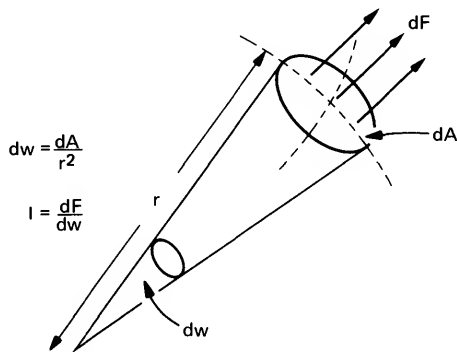

Figure 3. Solid angles and luminous intensity.
Since it is generally not practical to collect all the flux from a light source, and direct it in some desired direction, it is desirable to know how the flux is distributed spatially about the source. If we treat the source as a point (far field measurement), we can divide the space around the source into elements of solid angle ($d\omega$), and inquire as to the luminous flux (dF) contained in each element of solid angle ($\frac{dF}{d\omega}$). The resulting quantity is Lumens/Steradian and is called LUMINOUS INTENSITY (I), (Fig. 3). The unit of Luminous intensity is called the CANDELA, sometimes loosely called the candle, or candle power.